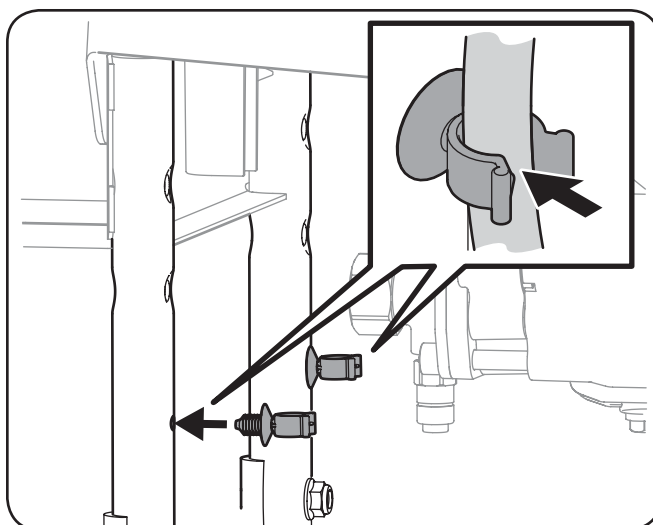

Figure 3-9
2. Install the two plastic hose clips packed with the soap inlet tube, into the frame holes provided. See Figure 3-9.
4. Route the soap inlet tube through the two clips installed in Step 2. See the inset of Figure 3-9.